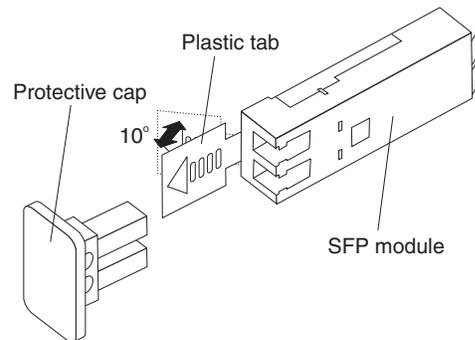

Figure 25. Unlocking the SFP module latch - plastic variety
- For SFP modules containing plastic tabs, unlock the SFP module latch by pulling the plastic tab outward 10°, as shown in Figure 25.